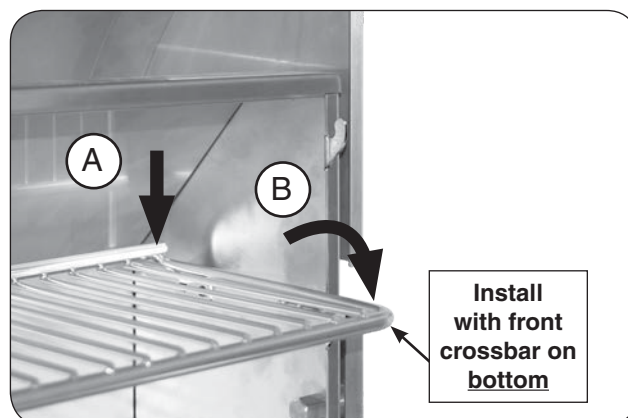

Fig. 21-2 Place warming rack for use
2. With the warming rack oriented as shown, carefully rest the rear of the rack onto the rear support plates (see Fig. 21-2, A), then lower the warming rack arms onto the lower hooks for use (see Fig. 21-2, B).